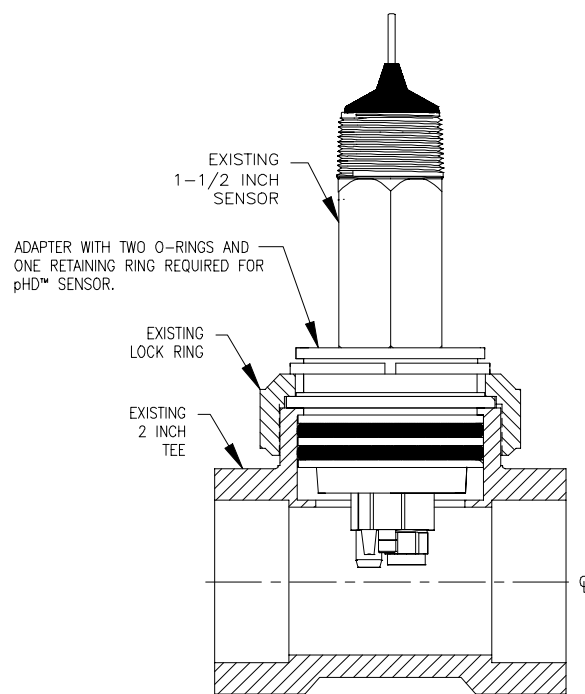

FIGURE 2-4
Figure 2-4 shows an existing GLI sensor in an existing 2-inch union tee. The required new union adapter is similar to the existing adapter, but has a smaller internal diameter that enables the pHDTM sensor to be mounted into the existing union tee.
7. Fasten and tighten the pH^D™ sensor into the new union adapter. Secure the lock ring onto the adapter (threads towards O-rings as shown in Figure 2-4) by placing the split retaining ring over the top of the adapter.